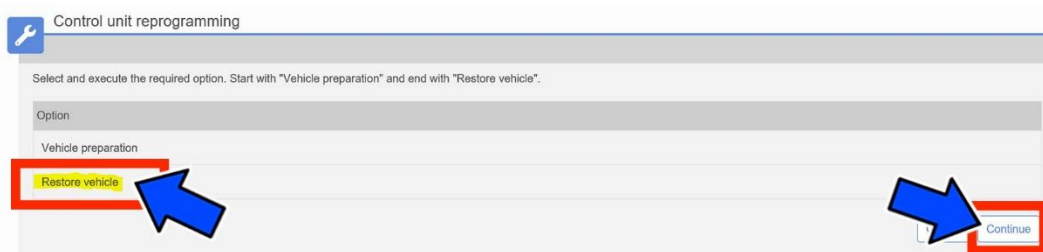

Figure 20 - Restore Vehicle
19. Select “**Restore Vehicle**” and then click “**Continue**” (Figure 20).